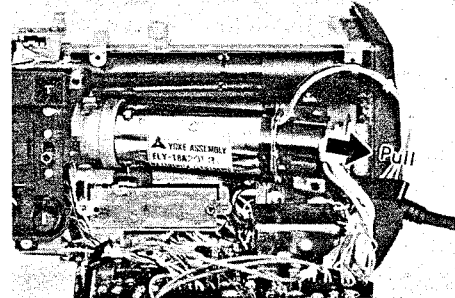

Fig. 3-5
- Remove the deflection coil, together with the deflection coil holder, from the chassis by pulling it backward. (Fig. 3-5)